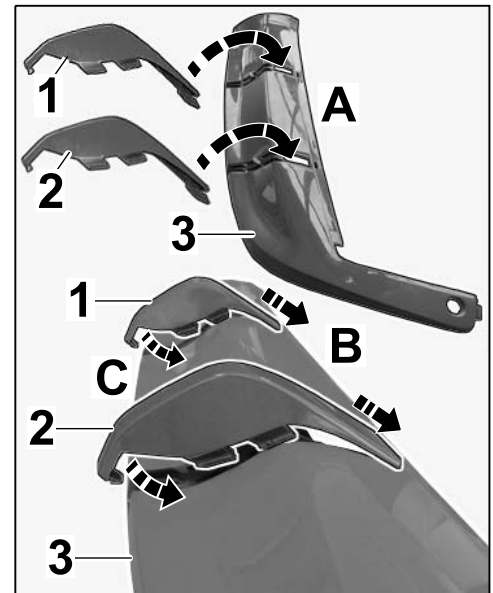

Figure 11
5.2.1 Guide in locking lug on outer/inner bar at the relevant position on the respective trim panel (⇒ *Figure 11 -A-*).
5.2.2 Press outer/inner bar in the trim panel forward (⇒ *Figure 11 -B-*).
5.2.3 Press outer/inner bar in the trim panel as far down as required until the bar engages (⇒ *Figure 11 -C-*).